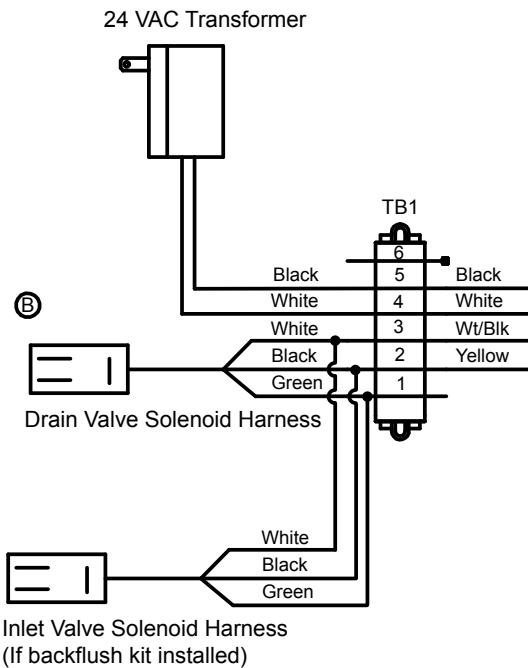

Figure 5: Meter/Solenoid Electrical Connection Diagram
3. Securely thread the female half of the union (Item 7B) onto the nipple extending from the 10 gpm (37.8 Lpm) flow control. If installing with the backflush kit, insert the backflush kit inlet solenoid valve between the union and the flow control (see Figure 1). Connect the inlet solenoid valve wire harness to the same terminals as the drain solenoid valve (see Figure 5). If installing recommended integrity test fittings (see Figure 8), install on the off-center bottom port on the bottom end cap (Item 1C).
## Meter/Solenoid Electrical Connection (Refer to Figure 5)